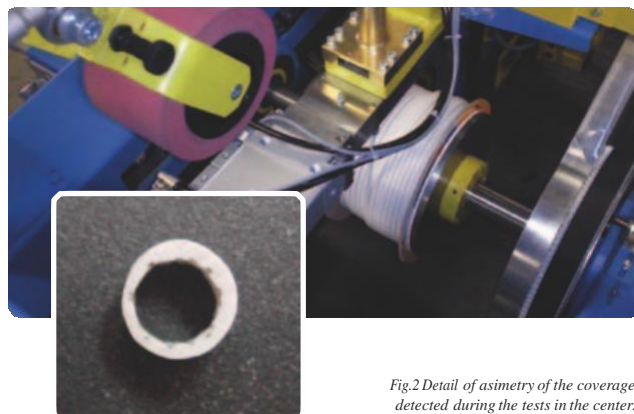

Fig.2 Detail of asymmetry of the coverage detected during the tests in the center.
■ **Quality of the outer sheath:** a complex tool detects variations in the walls of the outer sheath, which allows us to measure the homogeneity and symmetry of the outer sheath (Fig.2)